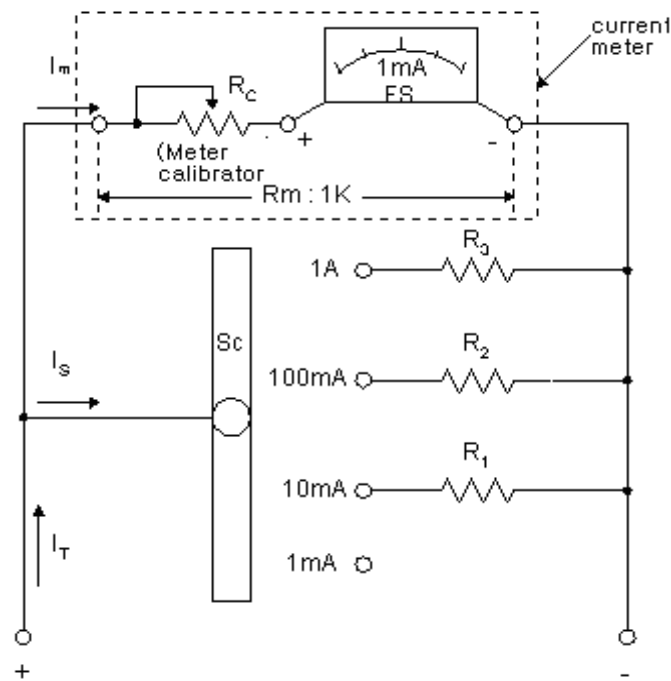

Figure 2-2 Circuit diagram of current meter
Generally, current meter consists of meter and the shunt connected to the meter in parallel. In this case, the sensitivity of meter is $50\mu A \sim 1mA$ (FS) and its internal resistance is approximately $100 \sim 1k\Omega$. (The smaller R_m is, the better sensitivity is in equal current) And the shunt used for the measuring a large current (more than 10A) indicates the output voltage of shunt for the connection of meter and the capacitance of the shunt (A). Understand the principle of operation of current meter as you see Figure 2-2. Assume that input current is I_T , current meter is I_m , and the current flowing shunt is I_s , then $I_T = I_m + I_s$. And assume that the internal resistance of current meter is R_m , resistance value of shunt is R_s , then I_m and I_s have the expression as follows;